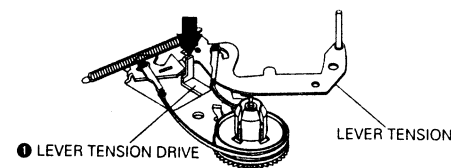

Fig. 2-11
- 2) Push the lever tension drive ① in the direction of arrow. (See Fig. 2-11)